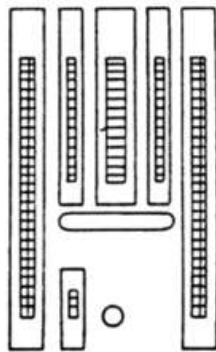
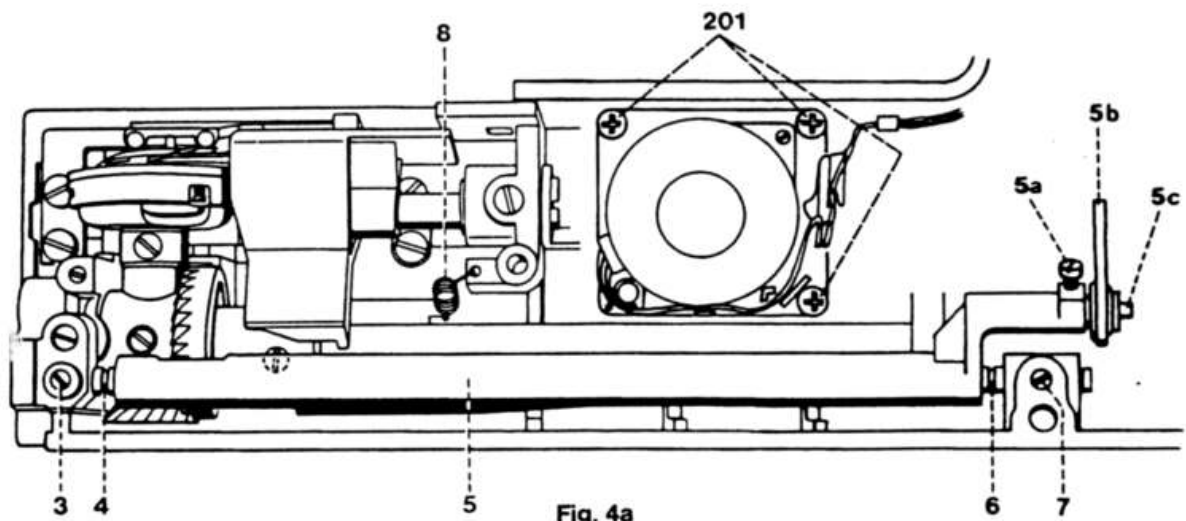

Fig. 4
Fig. 4a
- Loosen the three Philips screws 201 (fig. 4a) and turn the transverse-drive stepping motor until the feed dog is centered in the feed slots (fig. 4).
- Lightly tighten the three Philips screws 201 (fig. 4a).
- If the adjustment is correct, tighten Philips screws 201 (fig. 4a).
In the highest position of the feed dog, the points of its teeth must protrude above the needle plate surface by 0.85 to 0.9 mm (fig. 4).